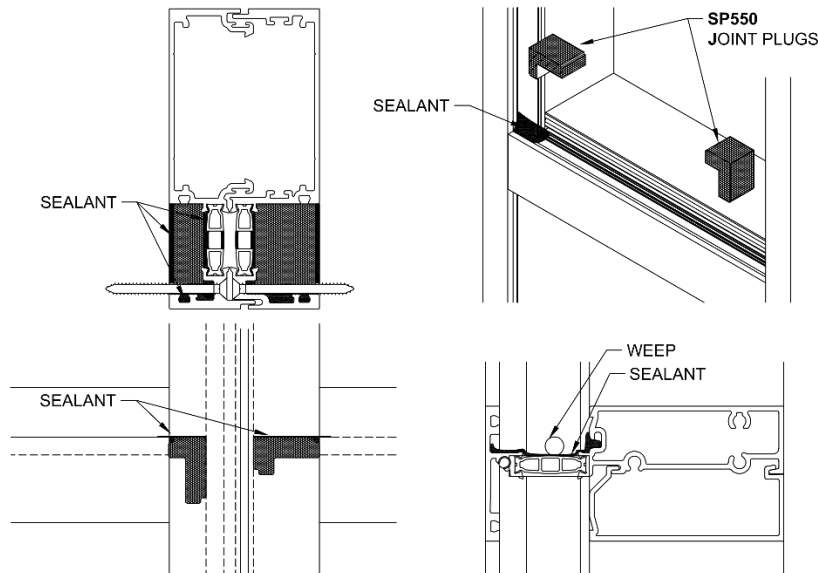

Figure 84: Joint Plug Installation and Sealing
25.2 At Split Mullions, install Joint Plugs. Apply Sealant to one end of **SP550** Joint Plug and position at the end of the Horizontal. Rotate as needed for the deep and shallow pockets. Thoroughly coat the Joint Plug on all sides in contact with the Mullion. Insert into the glazing pocket flush with the top of the Horizontal. Be sure to keep the weep hole free of Sealant to ensure drainage. Reference *Figure 84*.
25.3 Seal the small opening at the front of the Vertical to dam the area completely, as shown in *Figure 84*.